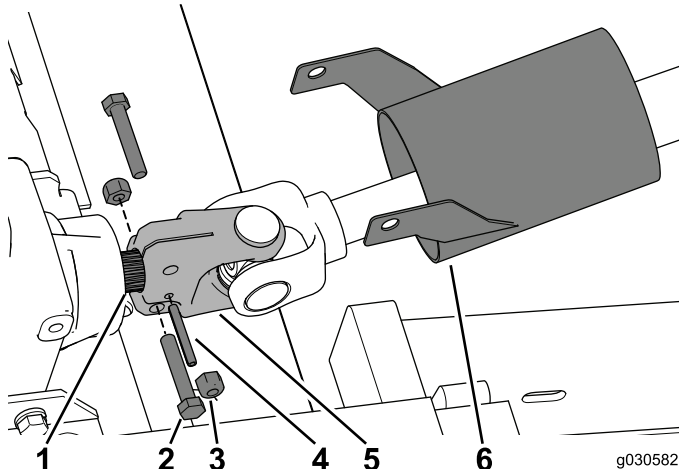

Figure 32
3. Remove and set aside the 2 bolts, locknuts, and roll pin securing the end yolk to the gearbox shaft (Figure 32).